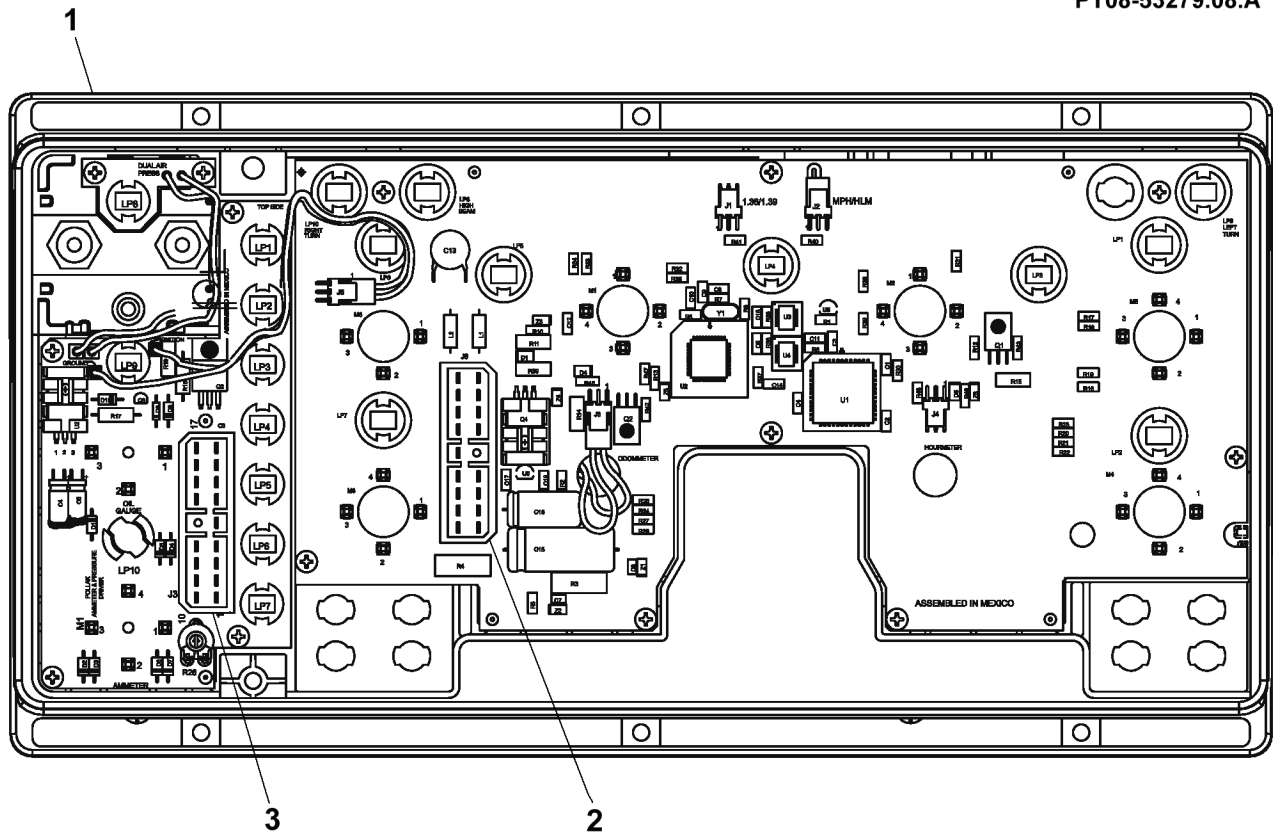

Figure 16 Disconnect Wiring Harness Connectors
8. Disconnect the two (2) wiring harness connectors from the back of the cluster assembly (Figure 16).